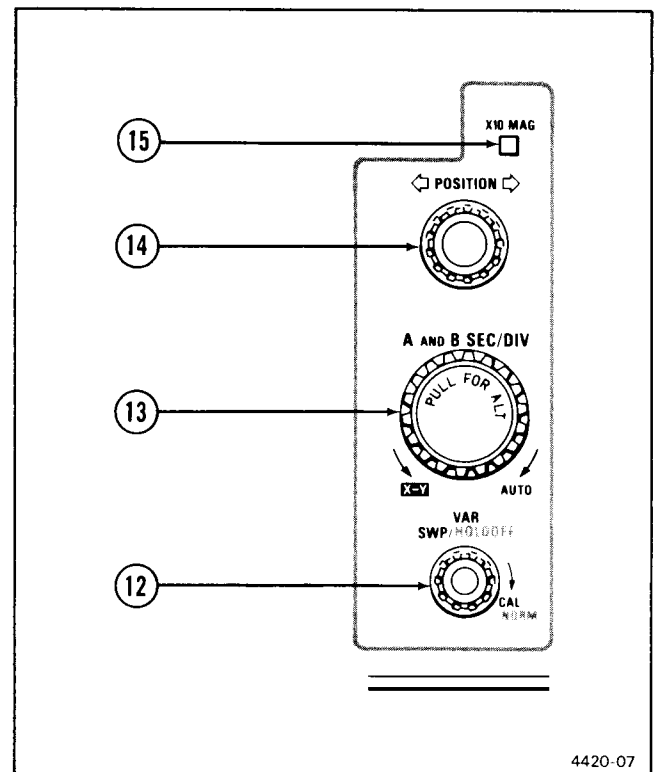

Figure 2-5. SEC/DIV and Horizontal controls.
Refer to Figure 2-5 for the location of items 12 through 15.